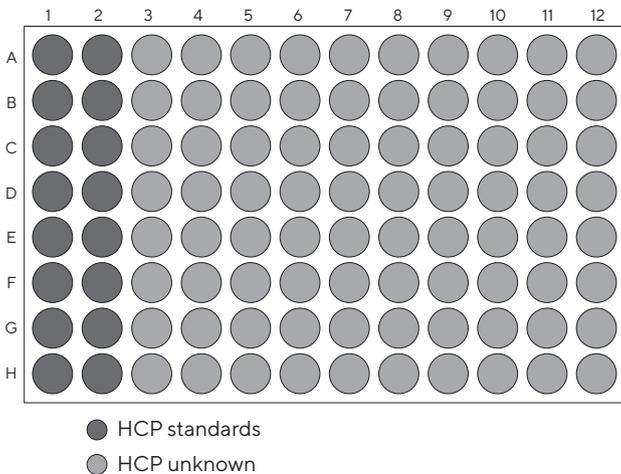

Figure 7: Sample Plate layout for incubation with biosensors on the Octet® AS Station.
- Prepare the Sample Plate (example plate layout shown in Figure 7):
- a. Define the Sample Plate layout to correspond to the layout in Figure 7. The Sample Plate Layout needs to be defined in the Octet® BLI Discovery Software even though the Sample step has been performed offline as this enables the software to assign the correct Sample IDs to the biosensors during analysis.